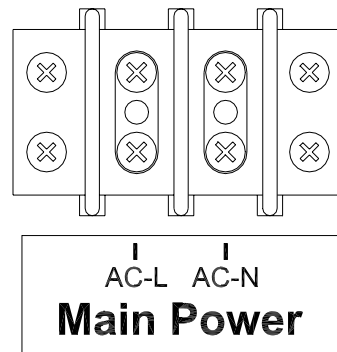

Figure 8 Power Connections
3. Connect the AC line wire and AC neutral wire to the **Main Power** terminal block on the junction chassis according to Figure 8.